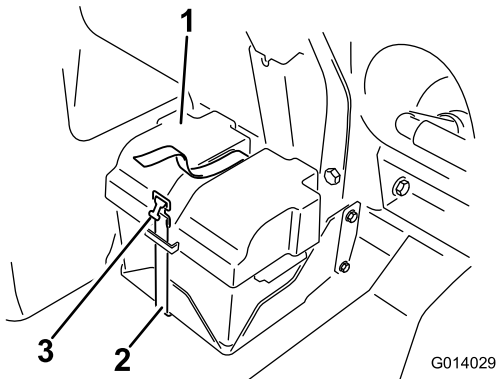

Figure 32
1. Remove the battery cover (Figure 32).